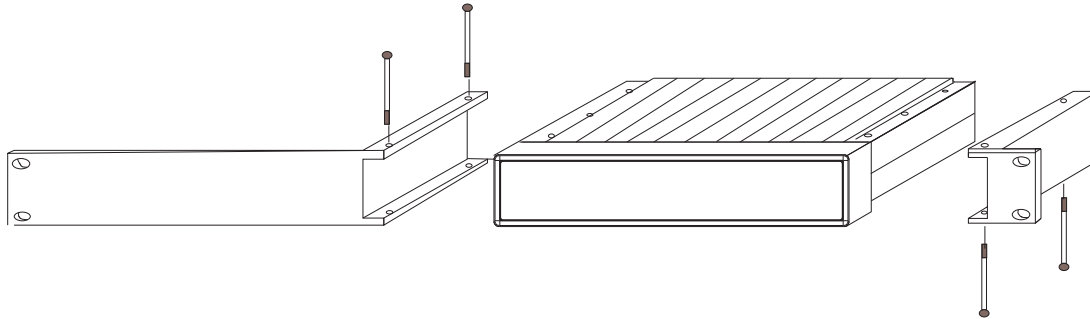

FIGURE 6. Rack Mount Kits
There are two (2) options for rack mounting the TIF2000A. If a single unit is to be rack mounted, attach an MCP-2 rack mount kit. If two (2) units are to be mounted side-by-side, attach an MCP-1 rack mount kit. See Figure 6 for a depiction of the two (2) rack mount kits.